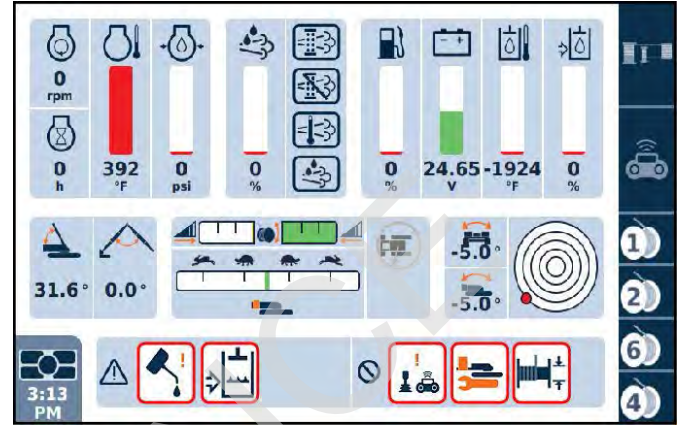

Figure 3-16. Working Screen
- 11. After the engine is started, the Working Screen shown in Figure 3-16 will appear in the Main Display.